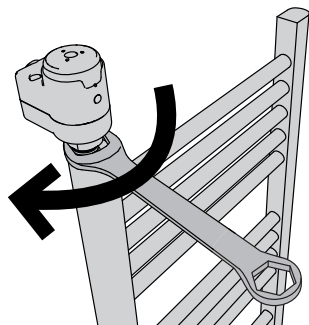

Fig. 6
5. Then, using a 27 mm spanner, screw the heating element until the last nipple thread turn and, if necessary, continue in order to have the regulating box facing forward (Fig. 6).